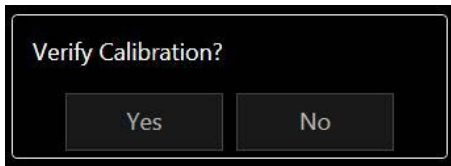

Figure 26: Calibration Window
- ⑥ The “Verify Calibration” window should automatically be displayed if the “Bio A” tab had been previously selected. (Figure 26)